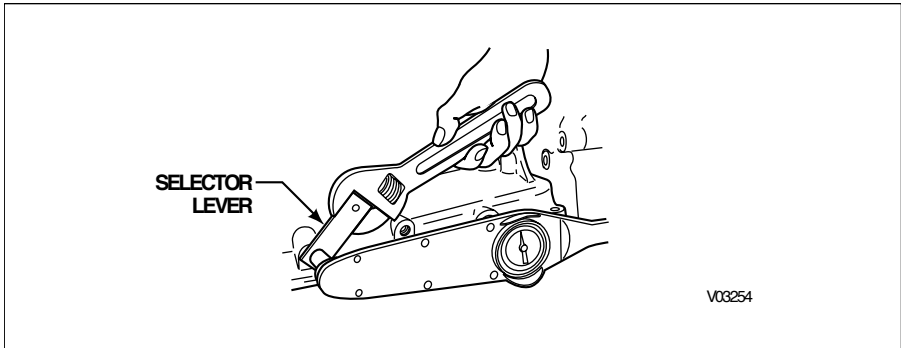

Figure 3–2. Tightening Selector Lever Nut
- Hold the lever and tighten the nut to 15–20 lb ft (20–27 N·m) (Figure 3–2). The lever must be seated fully against the shaft shoulder.